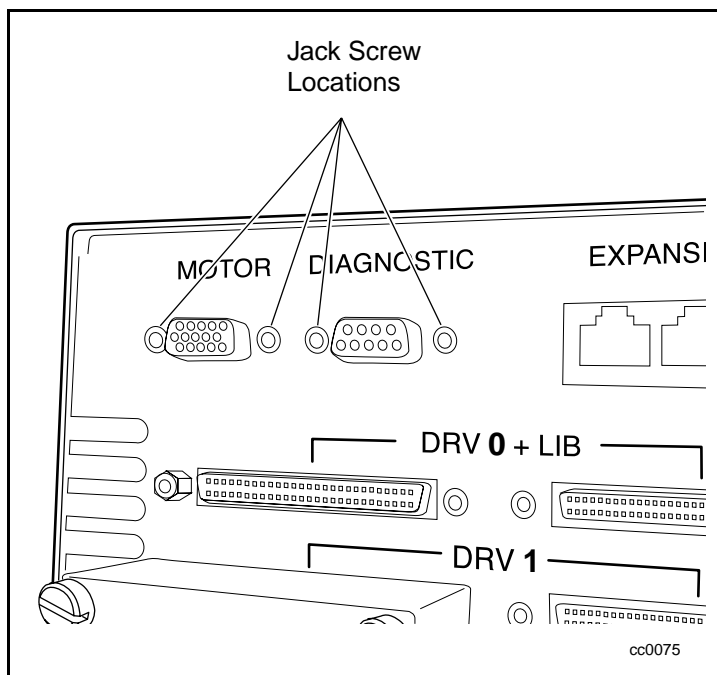

Figure 5-4. Jack screw locations
3. Remove the four jack screws (see Figure 5-4):